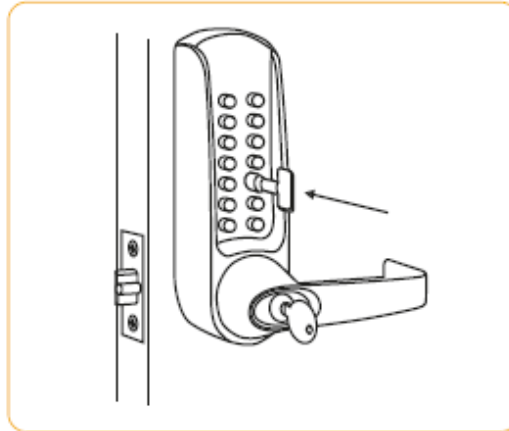

Fig 2
5. To select a button as a code button, push code tool over button. Press in button with tool approx 2mm (3/32”) and turn clockwise 180°. Fig 2.